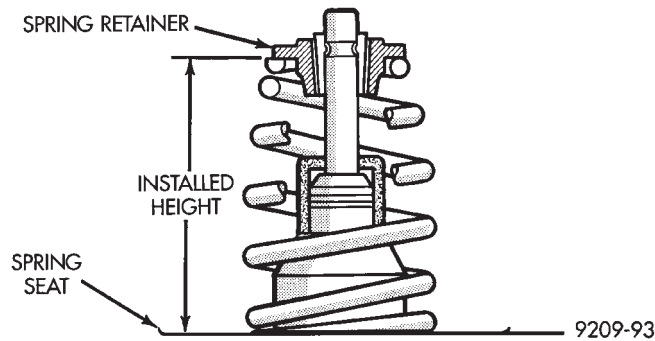

Fig. 23 Checking Valve Installed Height
- (1) Coat valve stems with clean engine oil and insert them in cylinder head.
- (2) If valves or seats are reground, check installed valve spring height (Fig. 23).
- (3) Install new cup seals on all valve stems and over valve guides (Fig. 23). Install valve springs and valve retainers.
- (4) Compress valve springs with Valve Spring Compressor Tool C-3422-B, with adapter 6412 install locks and release tool. **If valves and/or seats are reground, measure the installed height of springs, make sure measurements is taken from top of spring seat to the bottom surface of spring retainer. If height is greater than 1-19/32 inches, (40.6mm), install a 1/32 inch (.794mm) spacer in head counterbore to bring spring height back to normal 1-17/32 to 1-19/32 inch (39.1 to 40.6mm).**